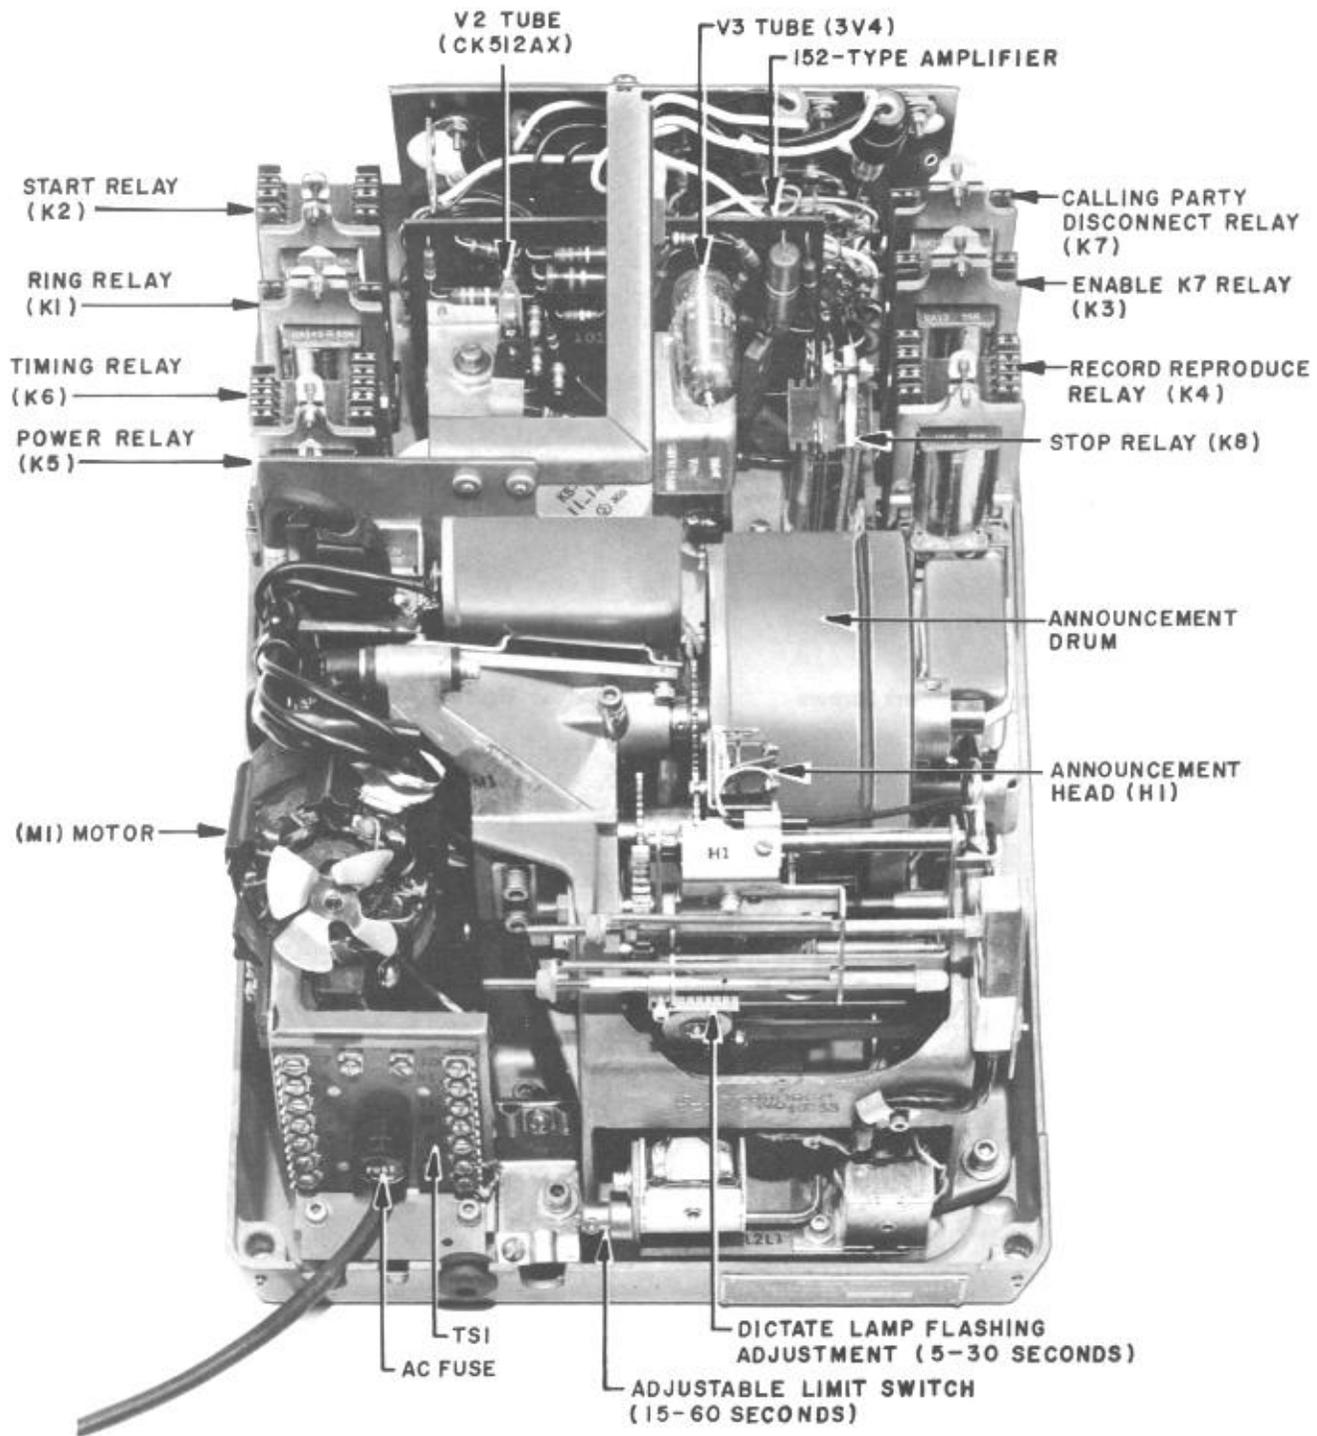

Fig. 11 - Assembled Parts of Telephone Answering Set
1.15 Fig. 11 identifies the assembled parts of the telephone answering set.